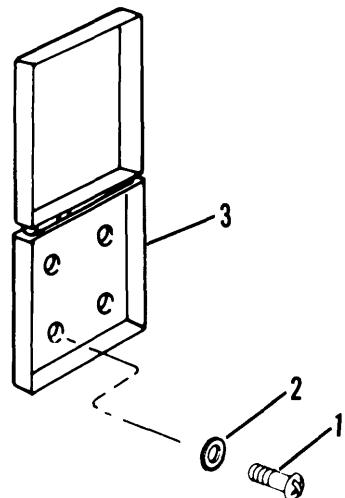

Figure 4-63. Document Box
- (1) Remove four screws (1, fig. 4-63) and washers (2).
- (1) Place document box (3, fig. 4-63) into position.